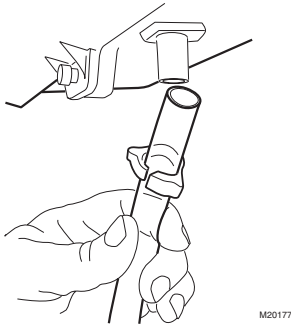

Fig. 10. Installing drain tubing.
4. Connect a 1/2 in. (13 mm) drain tube to the humidifier drain fitting and run to the floor drain (see Fig. 10).